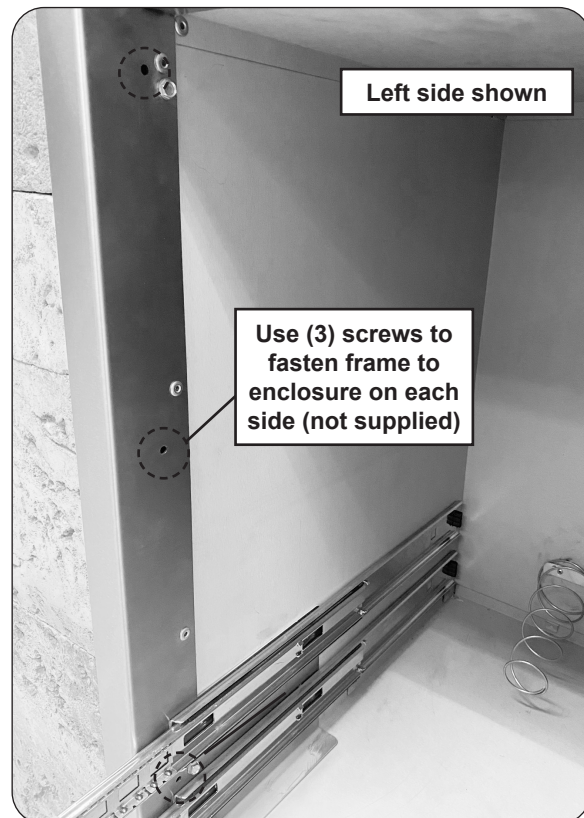

Fig. 3-1 Fasten side walls of frame
1. Locate the 3 screw holes found on each of the left and right sides of the accessory frame (see Fig. 3-1).